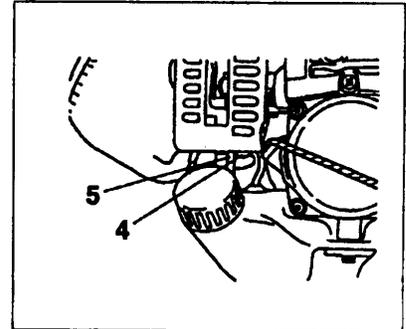

Fig. 2-2C
*Push priming bulb (4) several times so that fuel flows through the bulb or return pipe (5). (If so equipped) (Fig. 2-2C)